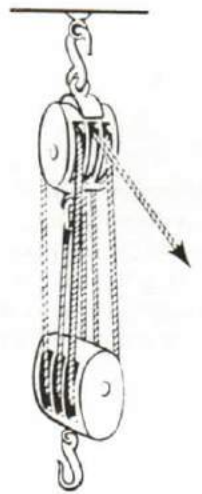

Figure 11-37
5. A twofold purchase uses two double blocks. It is rove as in Figure 11-36. A three fold purchase uses two triple blocks and looks as in Figure 11-37.
5. Le palan double en quatre utilise deux poulies doubles; il est monté comme l'indique la figure 11-36. Le palan triple ou caliorne emploie deux poulies triples et prend l'aspect indiqué à la figure 11-37.